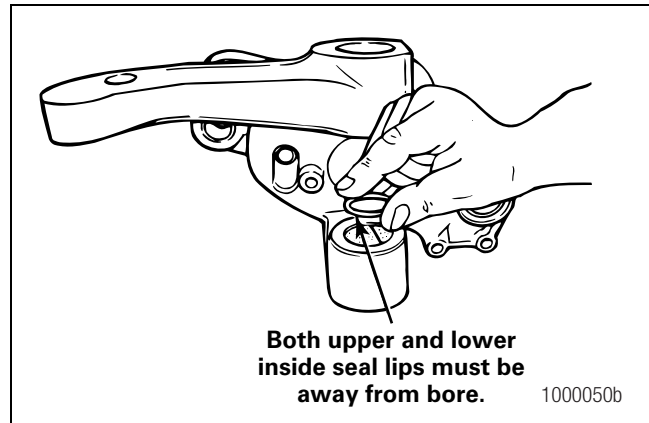
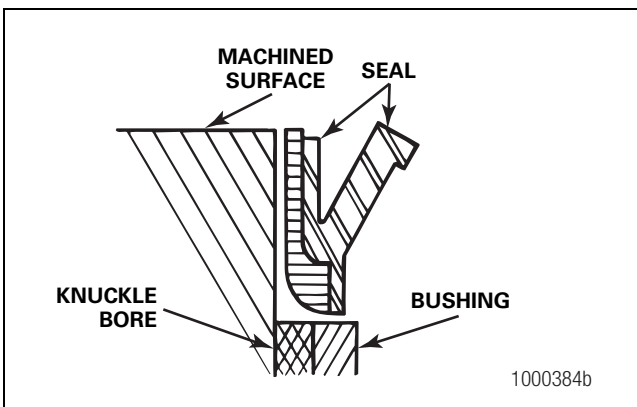
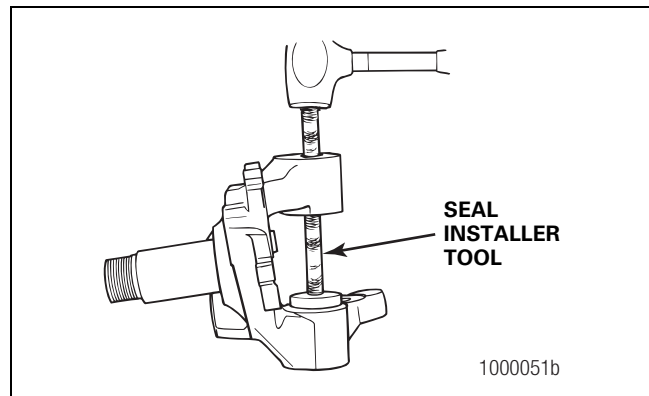

Figure 6.11
Figure 6.10
Figure 6.12
- **For Easy Steer and nylon bushings:** The top of the seal must be even with the top of the knuckle. Figure 6.10.
2. Use a seal installer tool to press the seal firmly into the knuckle bore. Figure 6.12.
1. Turn the knuckle OVER. Place the seal lightly into the inner bore. The seal lip must be AWAY from the bore. Figure 6.10 and Figure 6.11.
3. After installing the Easy Steer bushings, the top of the seal must be even with the inner machined surface of each knuckle bore. Figure 6.10.
4. Turn the knuckle over to the UP position. Place the seal lightly into the inner bore. The seal lip must be AWAY from the bore. Figure 6.10.
5. Use a seal installer tool to press the seal firmly into the knuckle bore. Figure 6.12. The top of the seal must be even with the inner machined surface of each knuckle bore. Figure 6.10.